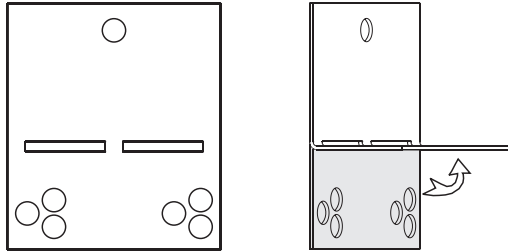

Figure 40
4. Nailing flanges are provided. The flanges included are flat but easily bend to form a right angle. Locate the pairs of holes on the side of the fireplace that will place the outside of the wall covering at the 1/16-inch past the fireplace opening. See Figure 40.